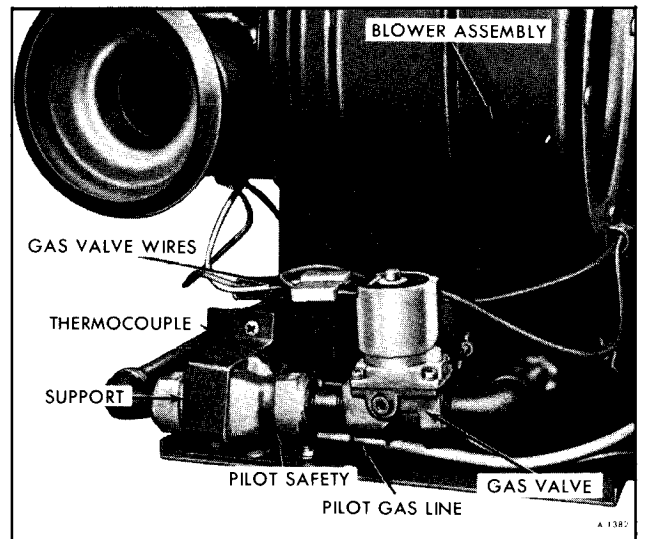
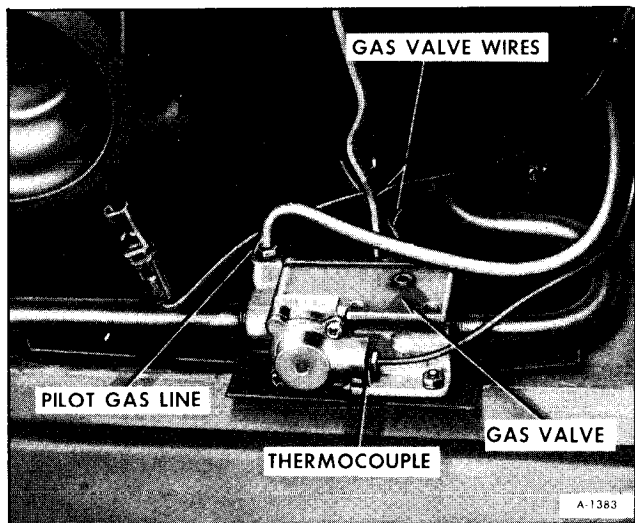

Figure 14—(NT-22G) Gas and Pilot Safety Valve
Figure 15-(NT-32G) Gas Valve
**NOTE:** The NT-22G TYPE I has its gas valve and pilot safety as two separate valves (See figure 14), whereas the NT-32G TYPE I has both these valves incorporated into one (See figure 15). But, the gas valve (and pilot safety) replacement procedures are similar for both the NT-22G TYPE I and the NT-32G TYPE I.
2. Disconnect pilot gas line, thermocouple and wires from valve(s) (See figures 14 and 15).
6. Connect pilot gas line, thermocouple, and wires at valve(s) (figures 14 and 15).